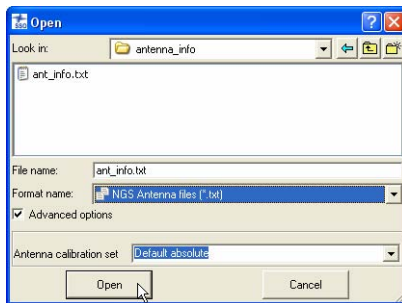

Figure 9-48. Select the Antenna Calibration File from the Antenna Calibration Set
3. Click **Open** to add the new calibration set to the Spectrum Survey Office (Figure 9-48).